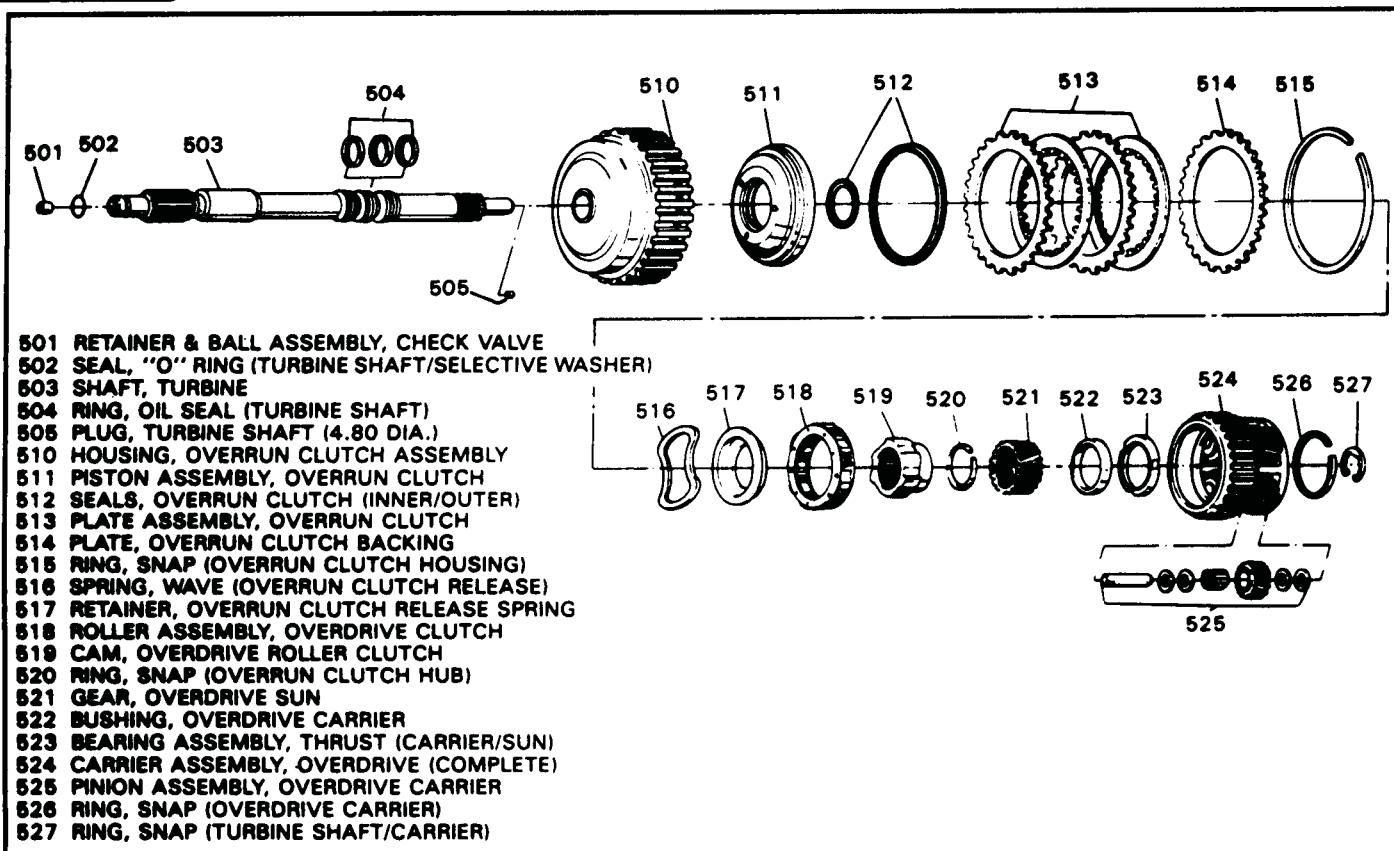

Figure 118
18. Install the wave return spring (516) on top of overrun piston, as shown in Figure 118.
19. Install return spring retainer (517) with the cup side facing down, as shown in Figure 118.
20. Install overdrive roller clutch assembly (518), onto the overdrive roller clutch cam (519), as shown in Figure 118. Roller assembly locator tangs must sit on the roller clutch cam.
21. Install entire overdrive roller clutch assembly on top of the retainer as shown in Figure 118.
22. Compress the assembly and install snap ring (520) onto the overrun clutch housing as shown in Figure 118.